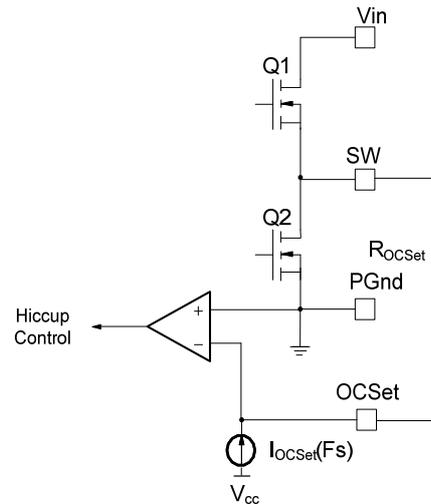

Fig. 7. Connection of over current sensing resistor
The over current protection is performed by sensing current through the R_{DS(on)} of low side MOSFET. This method enhances the converter’s efficiency and reduces cost by eliminating a current sense resistor. As shown in figure 7, an external resistor (R_{OCSet}) is connected between OCSet pin and the switch node (SW) which sets the current limit set point.